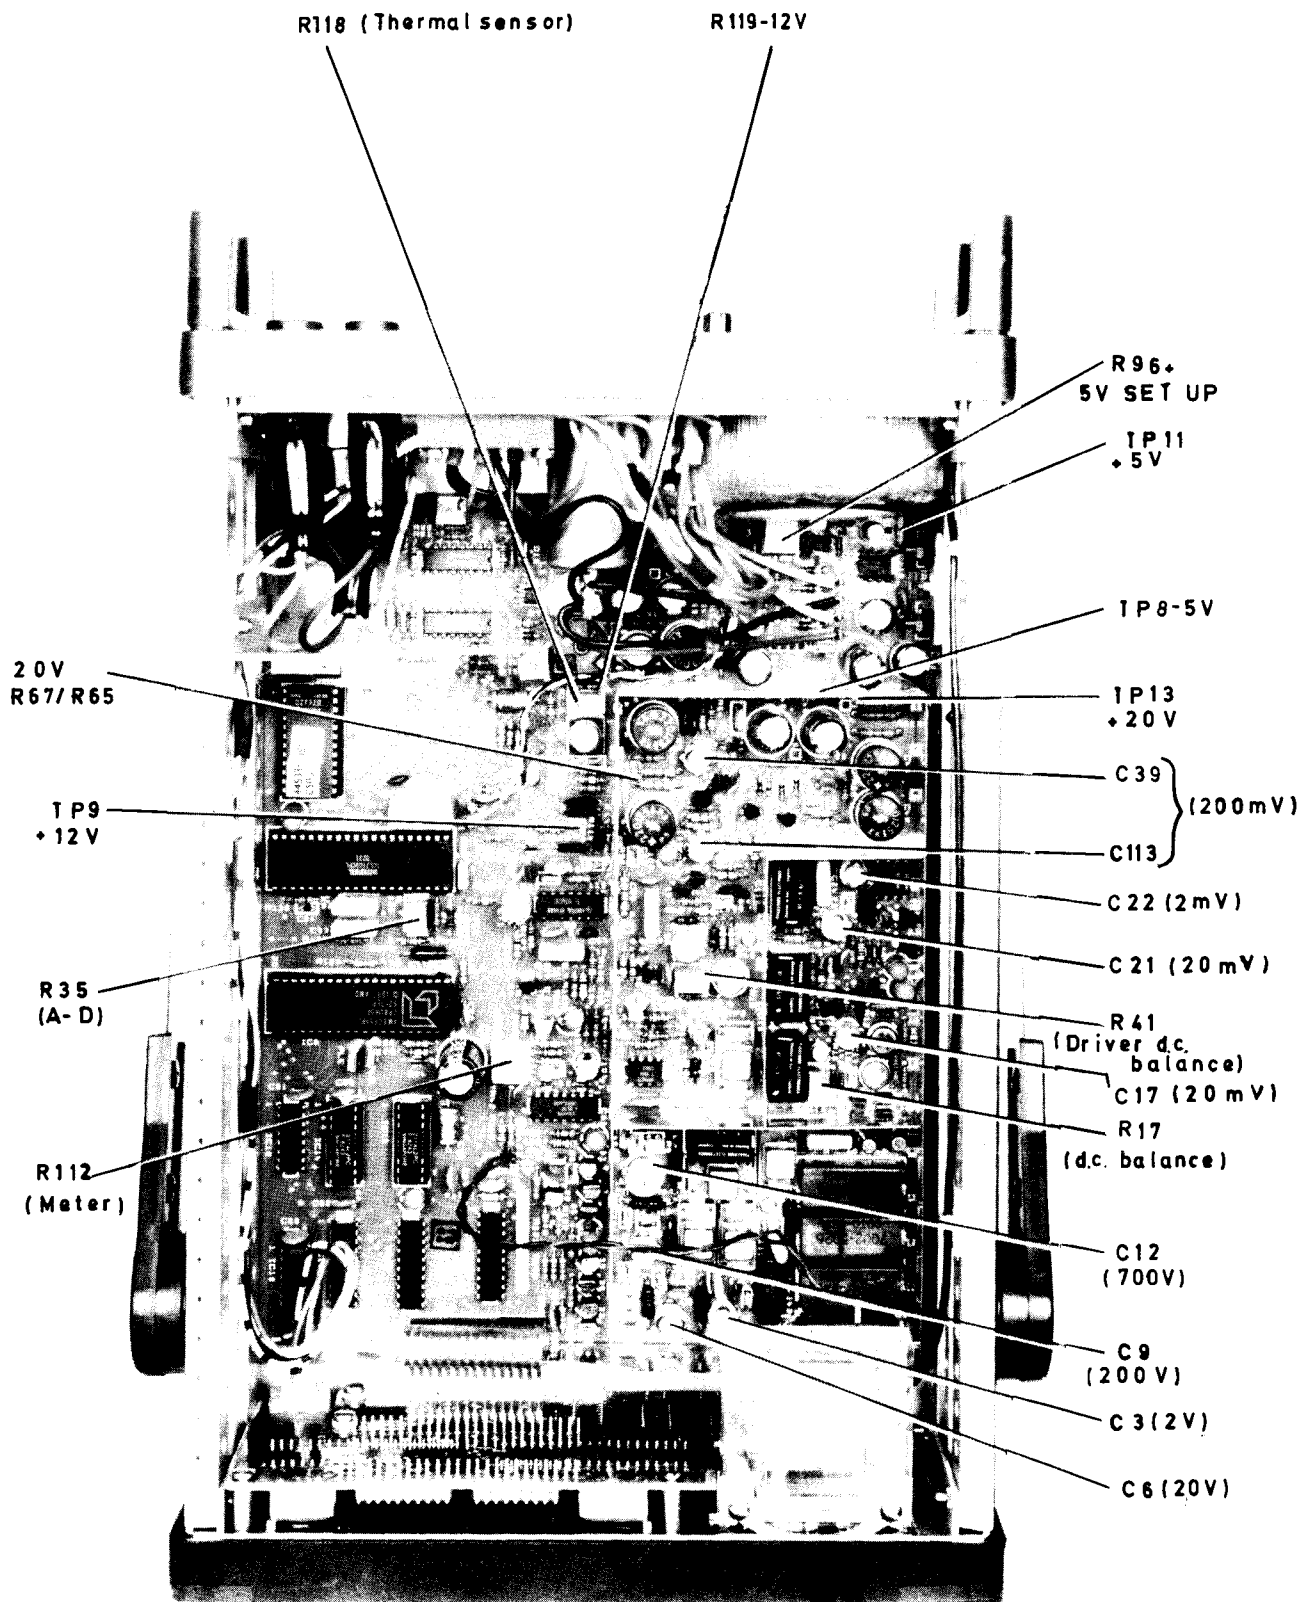

Fig. 1 2610 Preset controls and test point locations
28. Preset components and test point locations are shown in Fig. 1 of this chapter and their circuit connections in the servicing diagrams in Chap. 7. Pin connections for the integrated circuits and transistors are shown in Table 2.